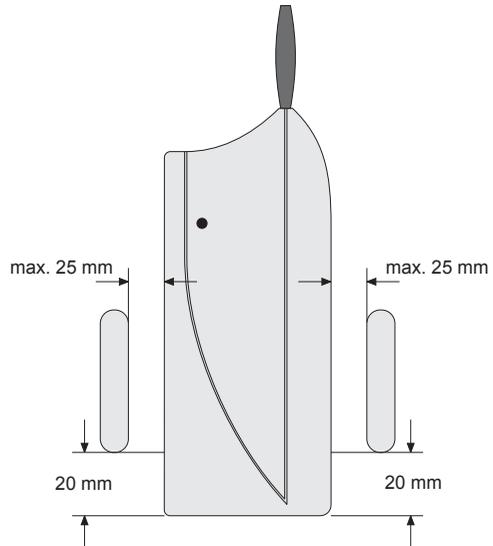

Figure 19
- As a rule, the magnet is mounted to the moving part (window, door panel, picture, for example) and the 'FAZ 3000-TF-2' door/window detector is attached to the static part (window frame, door frame or wall, for example). Please observe the recommended distances between the magnet and the door/window contact that are illustrated in figure 19 on the previous page.
- If you use the supplied magnet, attach it using the enclosed double-sided tape (please note the recommended distances, see figure 19 on page 29).